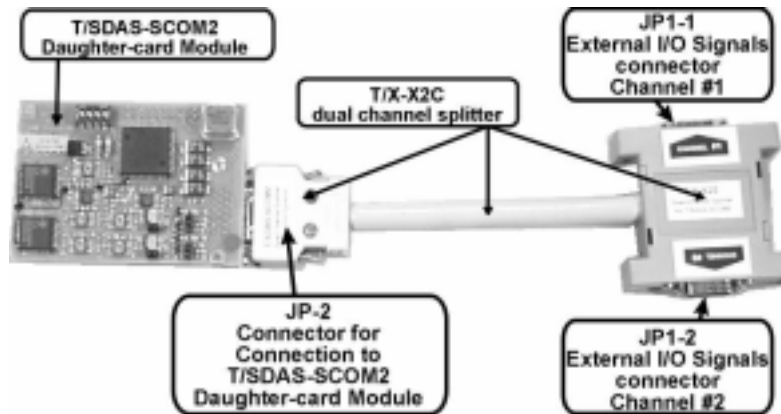

Fig. B-1. *T/SDAS-SCOM2* module with *T/X-X2C* dual-channel splitter.
*T/X-X2C* external dual-channel splitter (fig.B-1) converts on-board dual-channel JP2 external I/O connector of *T/SDAS-SCOM2* module into two single-channel external I/O connectors, which are compatible with that for *T/SDAS-SCOM1* module and which allow connection to external telephone line/station interface options and to single-channel audio/speech equipment.